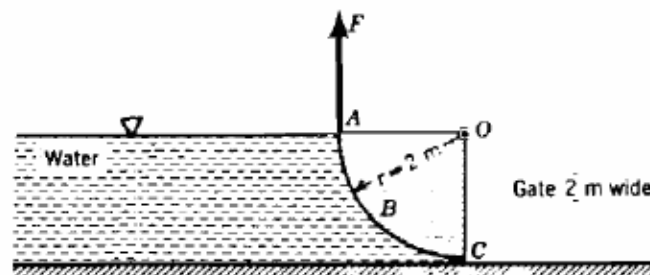

Figure 1/Rajah 1
1. [a] Determine the horizontal and vertical component of the force acting on the radial gate ABC in Figure 1 and their line of action. What is the force F required to open the gate (neglecting the weight of the gate)?